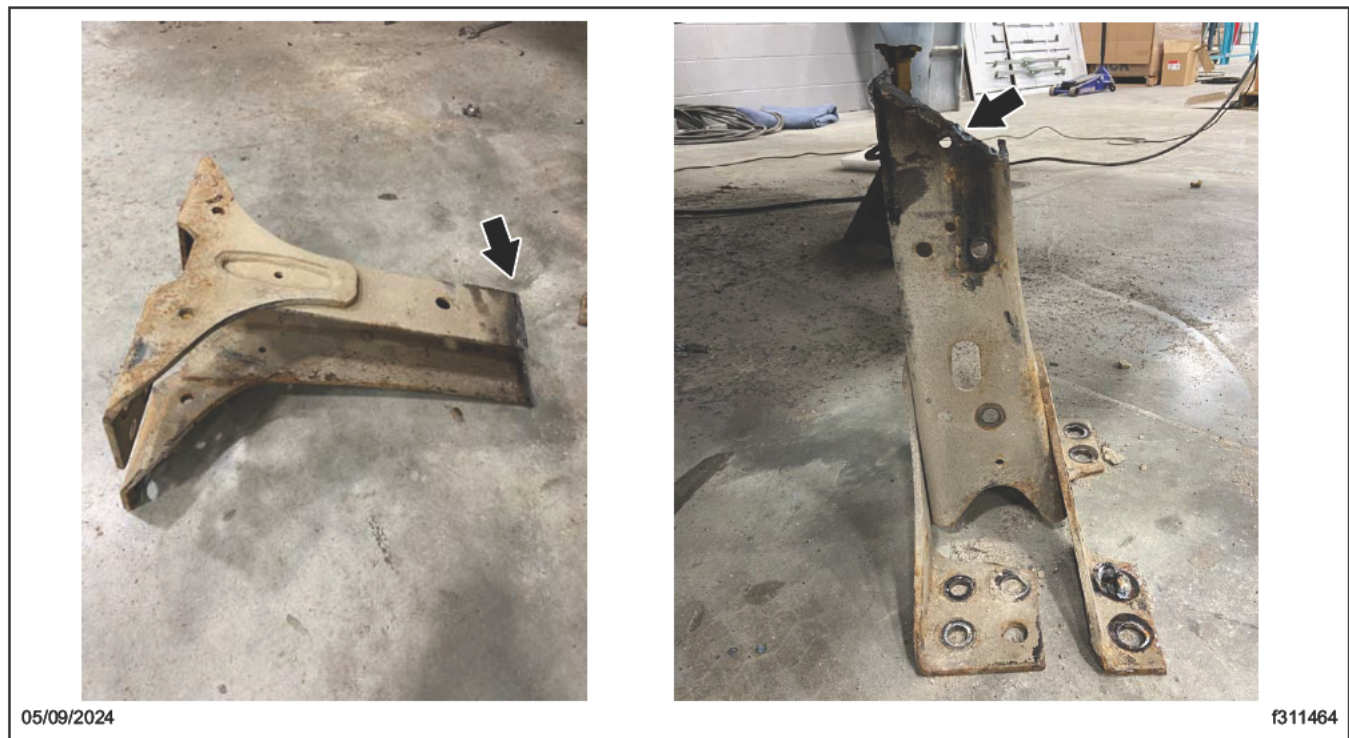

Fig. 12, Crossmember Cut at a 45-Degree Angle
2. Cut the crossmember at a 45-degree angle, and remove it. See Fig. 12.